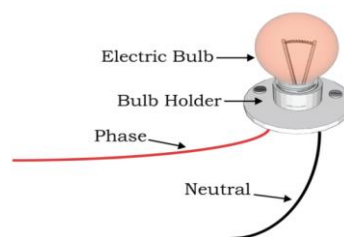

Fig. 2.11 Electric AC bulb with two terminals
Step 4 – Now, you have a bulb holder to which wires are connected. Figure 2.11 illustrates an AC Electric bulb with two terminals.